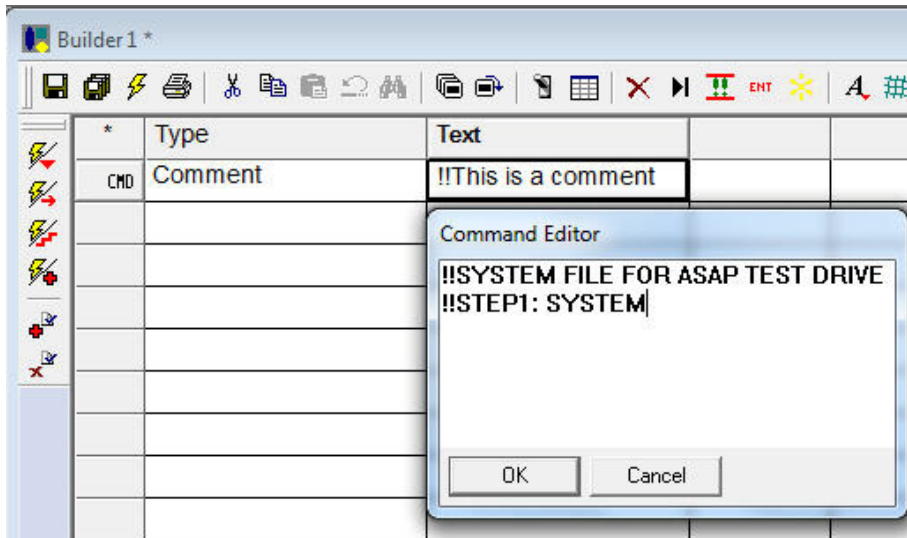

Figure 23 Typing a comment in the Command Editor dialog box
- 14 To edit the comment, double-click the cell in the Text column to display the Command Editor, type comments to add to your file, and click **OK**. See Figure 23.